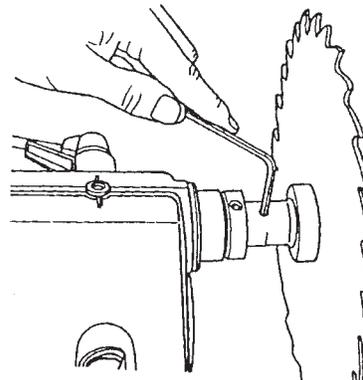
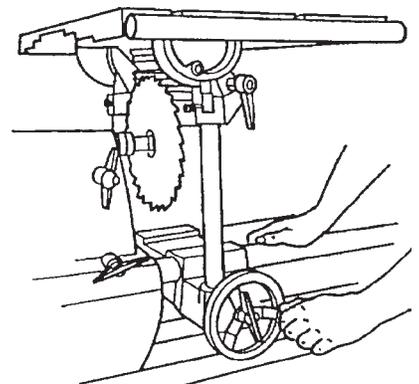

Figure B-60
Figure B-61
20. Mount the saw blade on the spindle and align the arbor set screw with the spindle knob's set screw, then use a 5/32" Allen wrench to tighten the arbor set screw, as seen in Figure B-60.
21. Reinstall the table insert (138) in the worktable.
23. Loosen the carriage lock and slide the carriage so the saw blade is directly beneath the slot in the table insert. See Figure B-61.